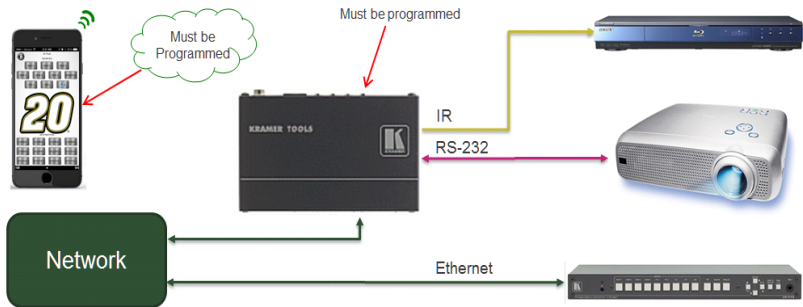

Figure 1: FC-26 Controlling Devices Remotely Using K-Touch 3.0 over a LAN
- Works in conjunction with **K-Touch 3** for remote control of devices over an Ethernet LAN via IR or serial connections, (see Figure 1)